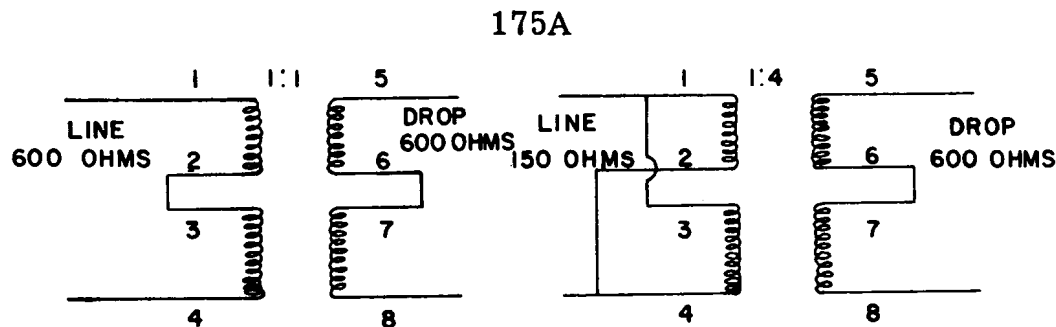

Fig. 7
2. Fig. 7 - Add drawing of 175A repeating coil to the three existing drawings.